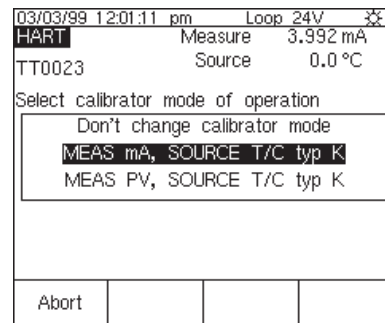

Figure 12
2. Press the **MEAS** key again and you are prompted to select the 744 configuration (Figure 12). Selecting **MEAS mA, SOURCE T/C typ K** configures the calibrator to measure the analog mA output of the transmitter and source the correct temperature stimulus at the 3144 input. (Selecting **MEAS PV, SOURCE T/C typ K** will configure the 744 to evaluate the digital PV output from the transmitter.) Press **ENTER** to select.